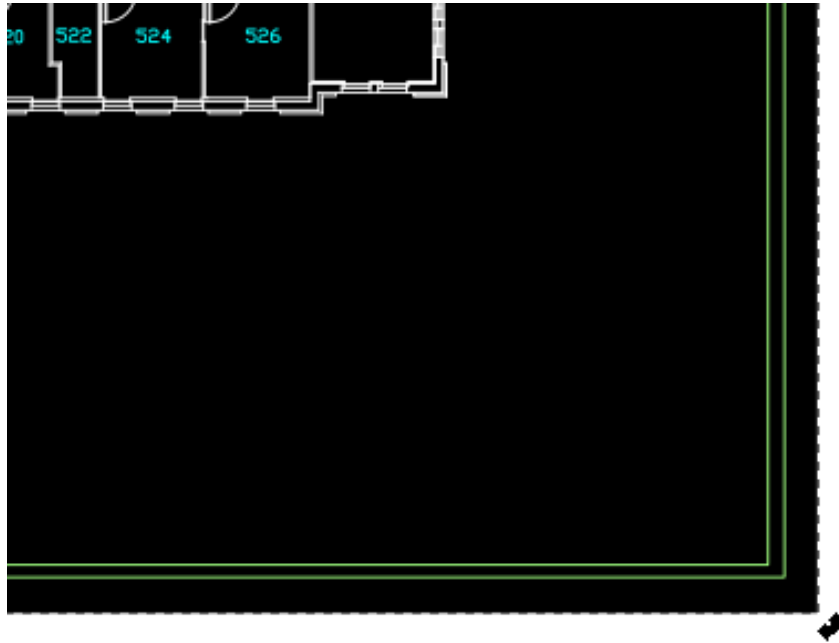

Figure 98 Select the black background near the corner
6. Select the black background near the corner so that the arrow icons appears at the corners as shown in Figure 98.